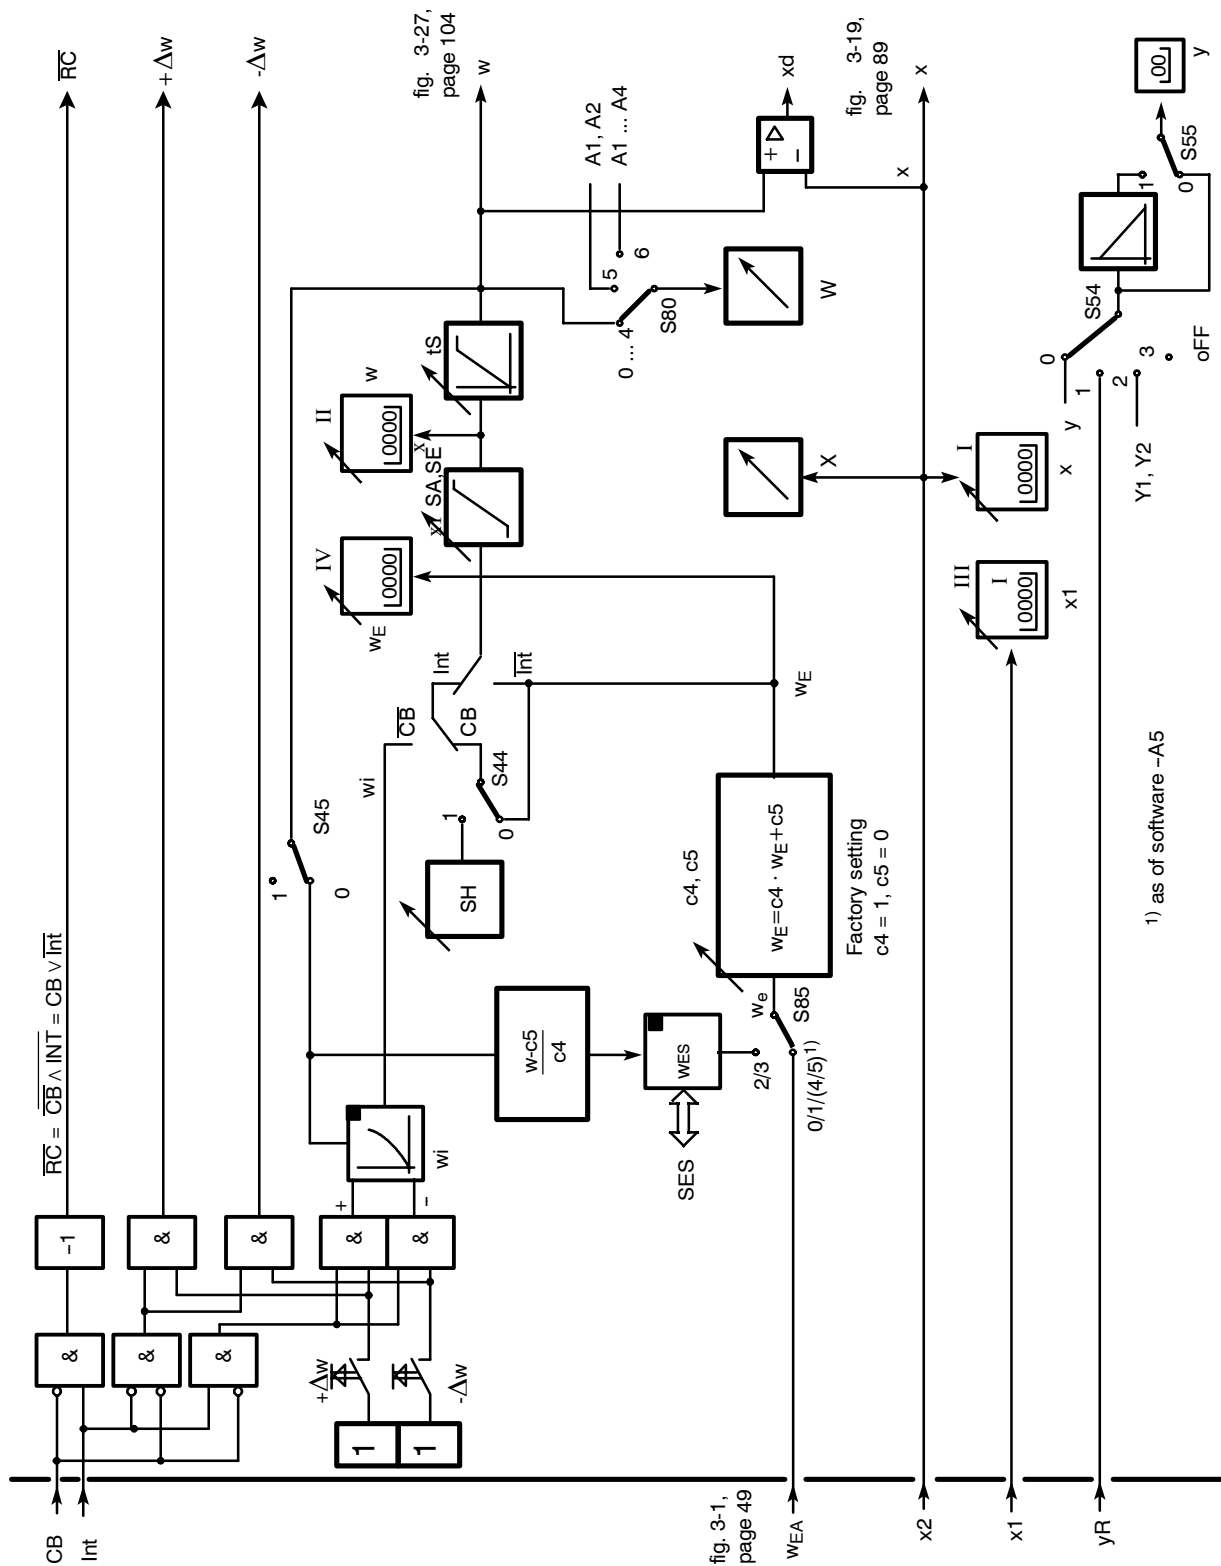

Figure 3-16 Block diagram control unit/process display (S1 = 4) setpoint generator S/K, manual control station S/K
Process display and control unit. The configuration is identical for both applications. The input wiring for both is illustrated in figure 3-16, page 82.
see figure 3-16, page 82
see fig. 3-16, page 82
- **Setpoint generator** see figure 3-16, page 82